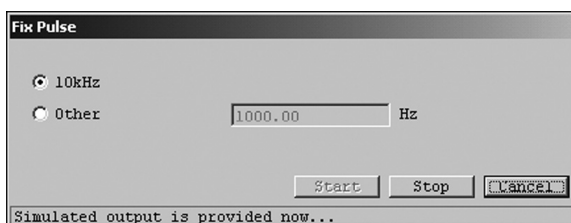

Fig.63
- ④ In response to clicking on "OK" button, a preselected pulse output appears. While this pulse output stays on, a message "Simulated output is provided now..." appears as shown in Fig. 63.